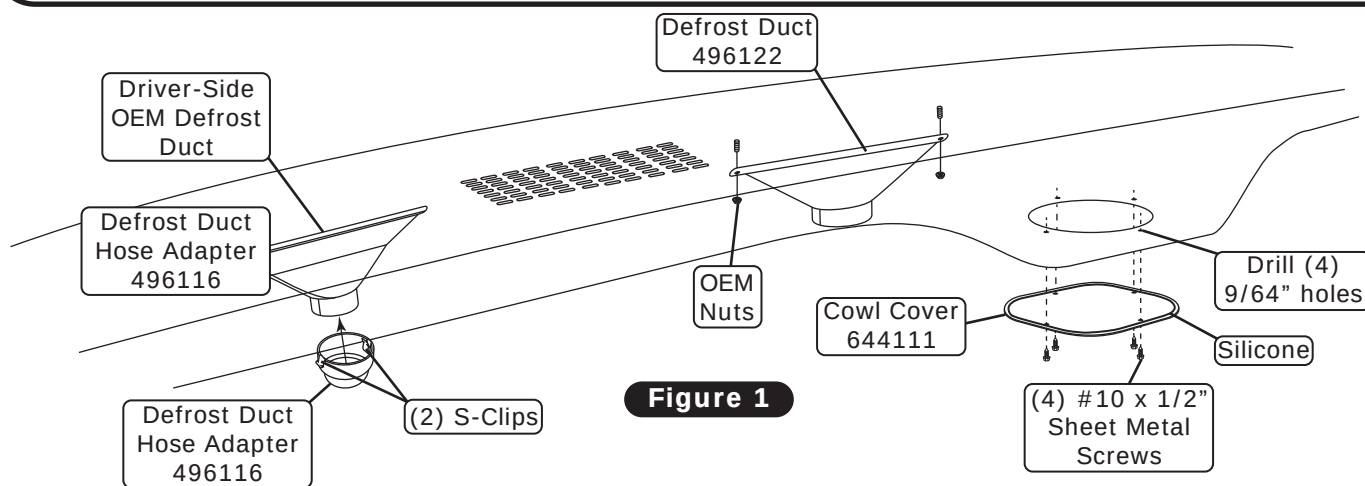

Figure 1
4. Hold the cowl cover under the dash and mark the (4) mounting holes.
5. Drill (4) 9/64" mounting holes under the dash.
6. Apply a 1/4" bead of silicone around the back side of the cowl cover as shown in Figure 1, below.
7. Secure the cowl cover to the fresh air hole using (4) #10 x 1/2" sheet metal screws as shown in Figure 1, below.